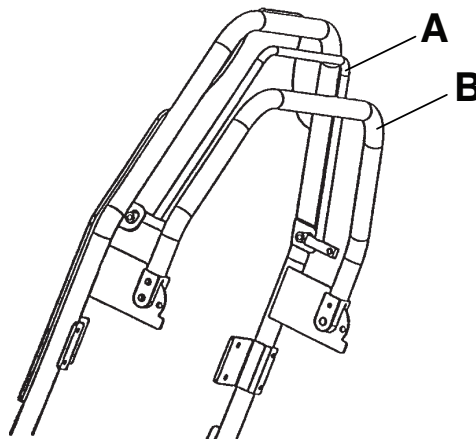

Figure 4 – Fowler backrest
To raise or lower the Fowler backrest, squeeze the red handle (A) toward the Fowler backrest frame, not toward the push bar (B). Lift up or push down on the Fowler backrest to move it to the desired position (between 0 and 90 degrees) (Figure 4).